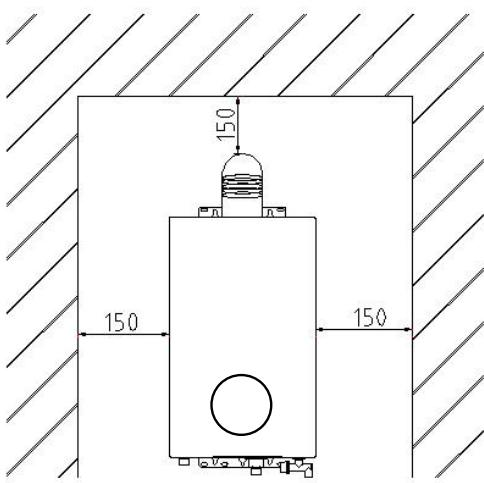
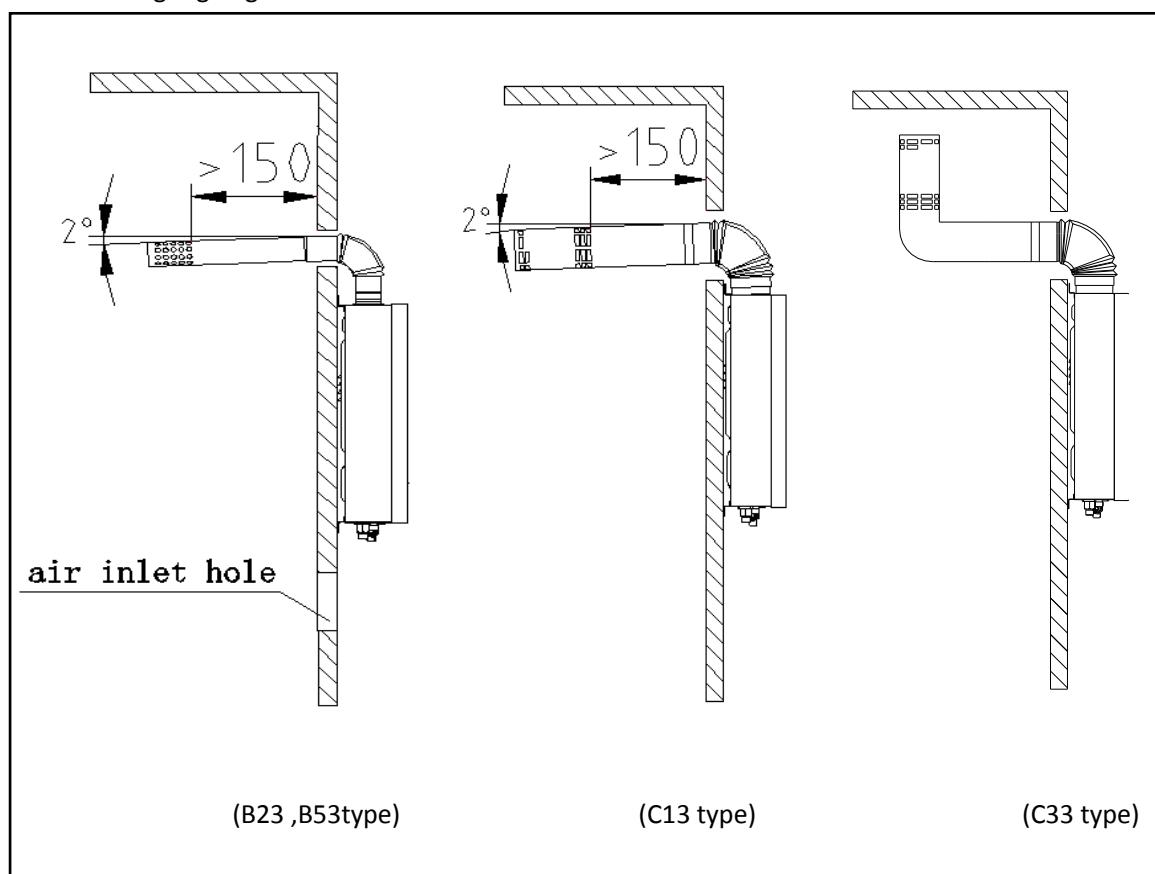

Fig. 7
Fig. 11
- The gas water heater should be kept away from the combustible materials with the distance shown in Fig. 7 at least.
- (1) Please use the flue supplied by our company, referring to Fig. 11 about the installation method. If the flue duct is too short, you can extend it aptly. Check the flue duct and see if there is any damage or leakage every half a year.
- (2) The length of the flue duct should be less than 8m,
- (3) The horizontal distance of the flue duct is the shorter the better. The flue duct end should have a 2° downward inclination (Fig. 11), so as to let the condensing water flows out.
- (4) The distance between the flue duct and the combustible materials should be more than 150mm. If the flue duct needs to get through the combustible materials or wall, it should use the heat shield material to pack the flue duct with the thickness over 20mm. (Refer to Fig.7)
- (5) No cement between the flue duct and wall for the convenience of maintenance.
- (6) The flue duct should be fixed tightly. The connection part could use self-adhesive foil to avoid the waste gas going back into the room.
- (1) Please use the flue supplied by our company, referring to Fig. 11 about the installation method. If the flue duct is too short, you can extend it aptly. Check the flue duct and see if there is any damage or leakage every half a year. Install the flue after the heater body is fixed. First, put the fixed flue through the hole in the wall, then insert the elbow into the exhaust outlet of the heater smoothly, the flue end should have a 2° downward inclination (Fig. 11), otherwise the rain may flow into the heater and damage it.
- (2) The length of the flue duct should be less than 4m, and the number of elbows should not be more than 4 (one elbow equivalent 1m straight pipe).
- (3) The distance between the flue duct and the combustible materials should be more than 150mm. If the flue duct needs to get through the combustible materials or wall, it should use the heat shield material to pack the flue duct with the thickness over 20mm. (Refer to Fig.7)
- (4) No cement between the flue duct and wall for the convenience of maintenance.
- (5) The flue duct should be fixed tightly. The connection part could use self-adhesive foil to avoid the waste gas going back into the room.